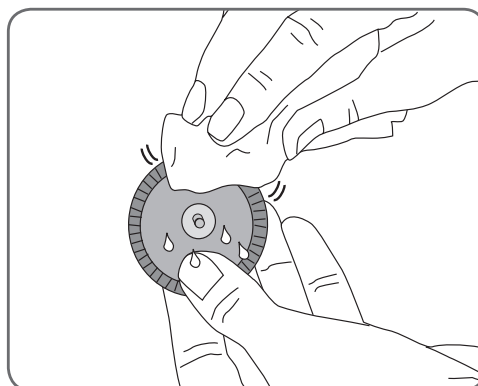

Figure 8-27: Blotting the snap side of the L300 cloth electrodes.
3. With a soft cloth, gently wipe or blot excess water from the snap side of the L300 cloth electrodes. See Figure 8-27.